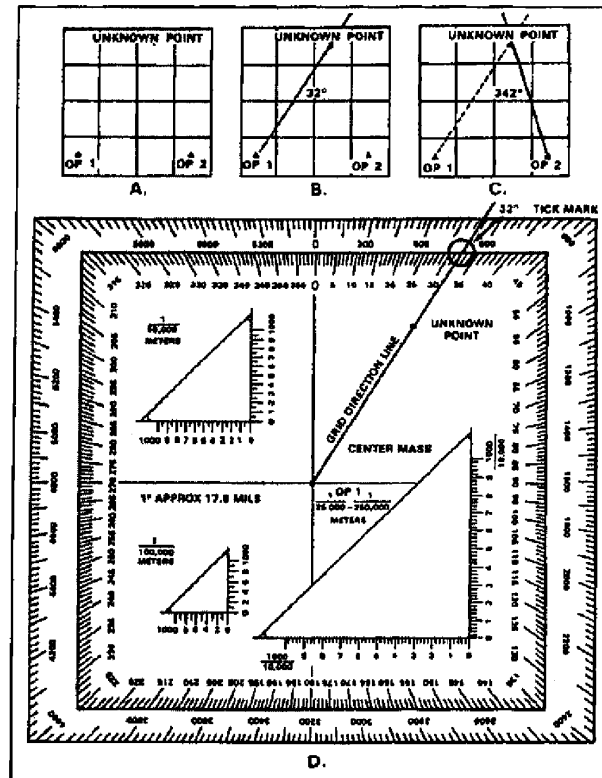

Figure C-35. Location of an unknown point
1. Use the map and compass method (figure C-35).